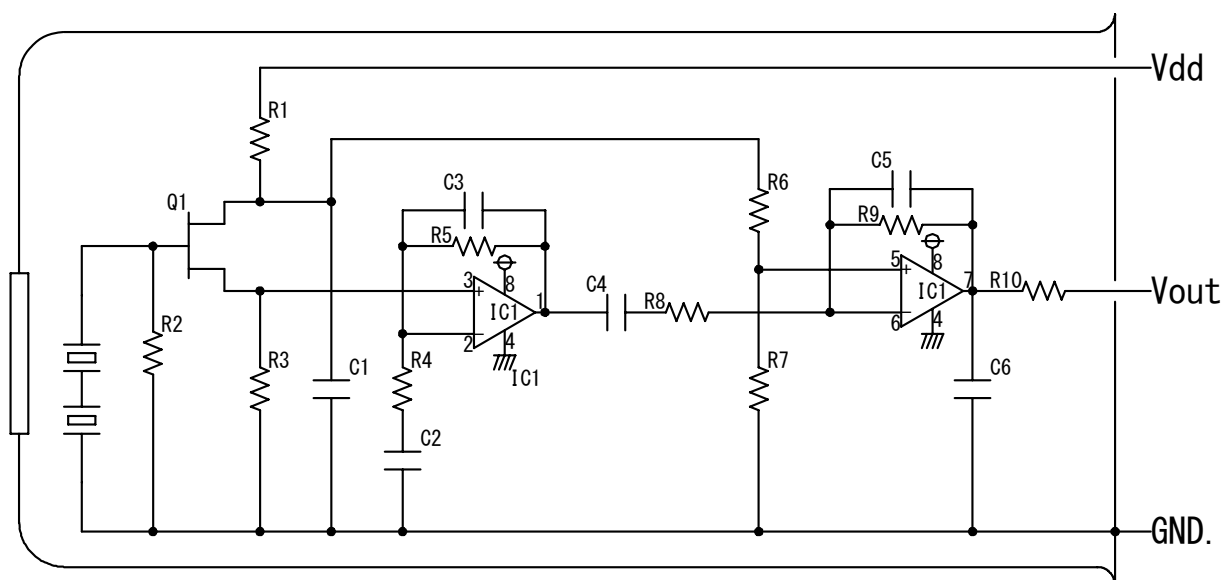

Fig. 3 : Circuit Configuration
4.9. Circuit Configuration	See Fig. 3